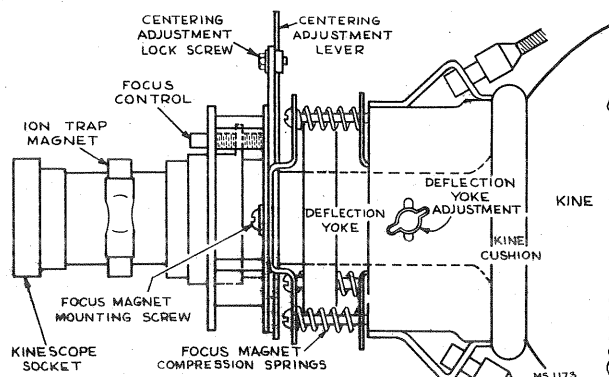

Figure 2—Yoke and Focus Magnet Adjustments
**ION TRAP MAGNET ADJUSTMENT.**—Set the ion trap magnet approximately in the position shown in Figure 2. Starting from this position immediately adjust the magnet by moving it forward or backward at the same time rotating it slightly around the neck of the kinescope for the brightest raster on the screen. Reduce the brightness control setting until the raster is slightly above average brilliance. Turn the focus control (shown in Figure 2) until the line structure of the raster is clearly visible. Readjust the ion trap magnet for maximum raster brilliance. The final touches of this adjustment should be made with the brightness control at the maximum clockwise position with which good line focus can be maintained.